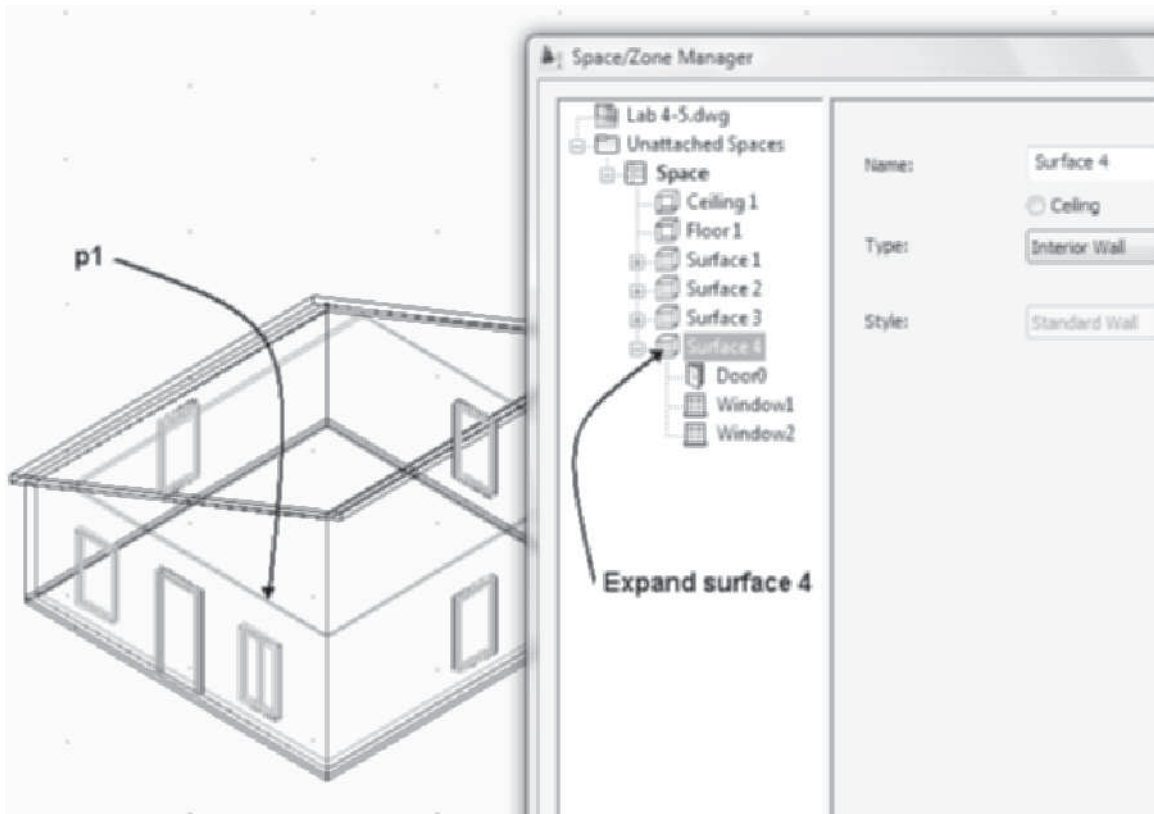

FIGURE 4.47 Surface 4 of the freeform space
7. Select the space at p1 as shown in Figure 4.47, right-click, and choose **Space/Zone Manager** from the shortcut menu.
8. Verify that the **Show All Zones and Spaces** and **Show Space Surfaces** checkboxes are checked in the lower-left corner of the Space/Zone Manager. Reposition the Space/Zone Manager, if necessary, to view the freeform space and the Space/Zone Manager. Expand Space and then expand **Surface 4** to view its contents as shown in Figure 4.47. Click OK to dismiss the dialog box.